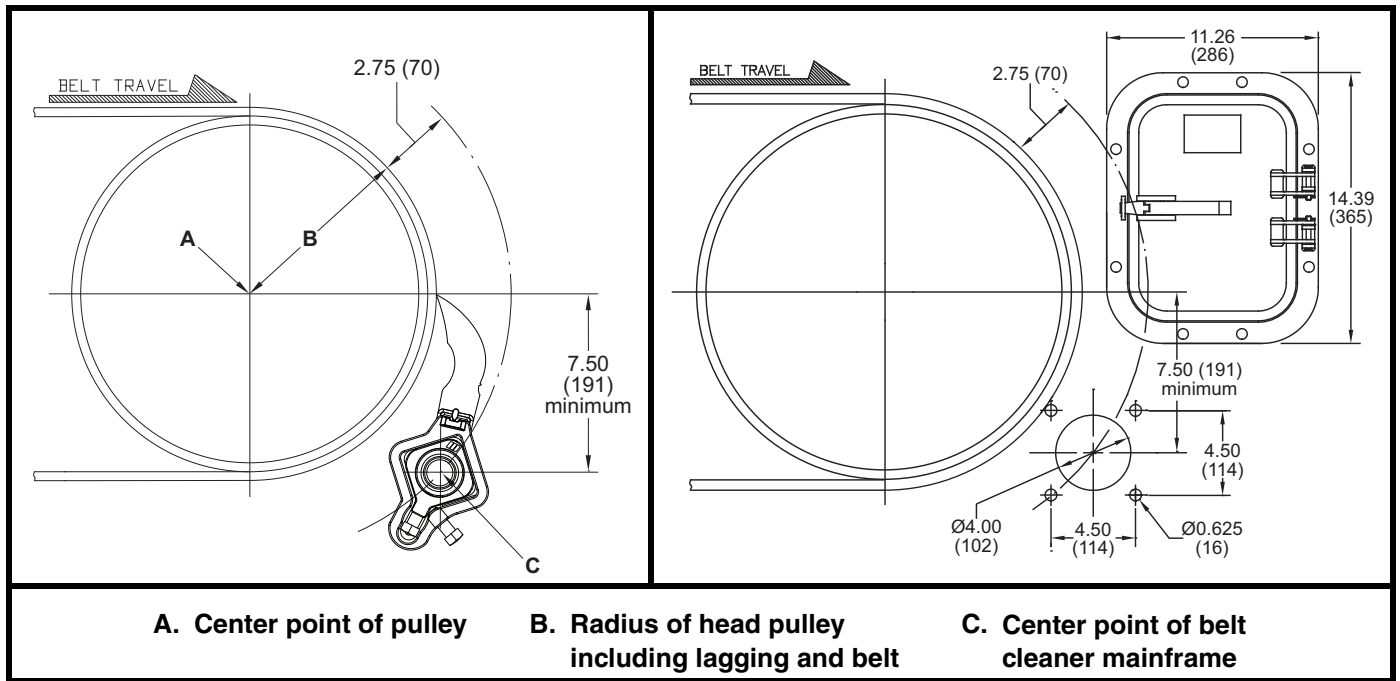

Figure 3. Belt Cleaner Mainframe Location & Chute Wall Cutouts for Martin® PV QB1™ Cleaner with Martin® Twist Tensioner
1. On operator side of chute, find pulley center point (A).
2. Measure radius of head pulley including lagging and belt thickness (B). To this dimension, add 2.75 in. (70 mm).
3. Starting from center point (A), measure the total distance calculated in step 2 (B + 2.75) and draw an arc on chute wall.
4. Measure down from pulley's horizontal centerline the distance shown in Figure 3 and draw a horizontal line parallel to it. Locate center point of belt cleaner mainframe (C) where this line intersects the arc on the chute wall.